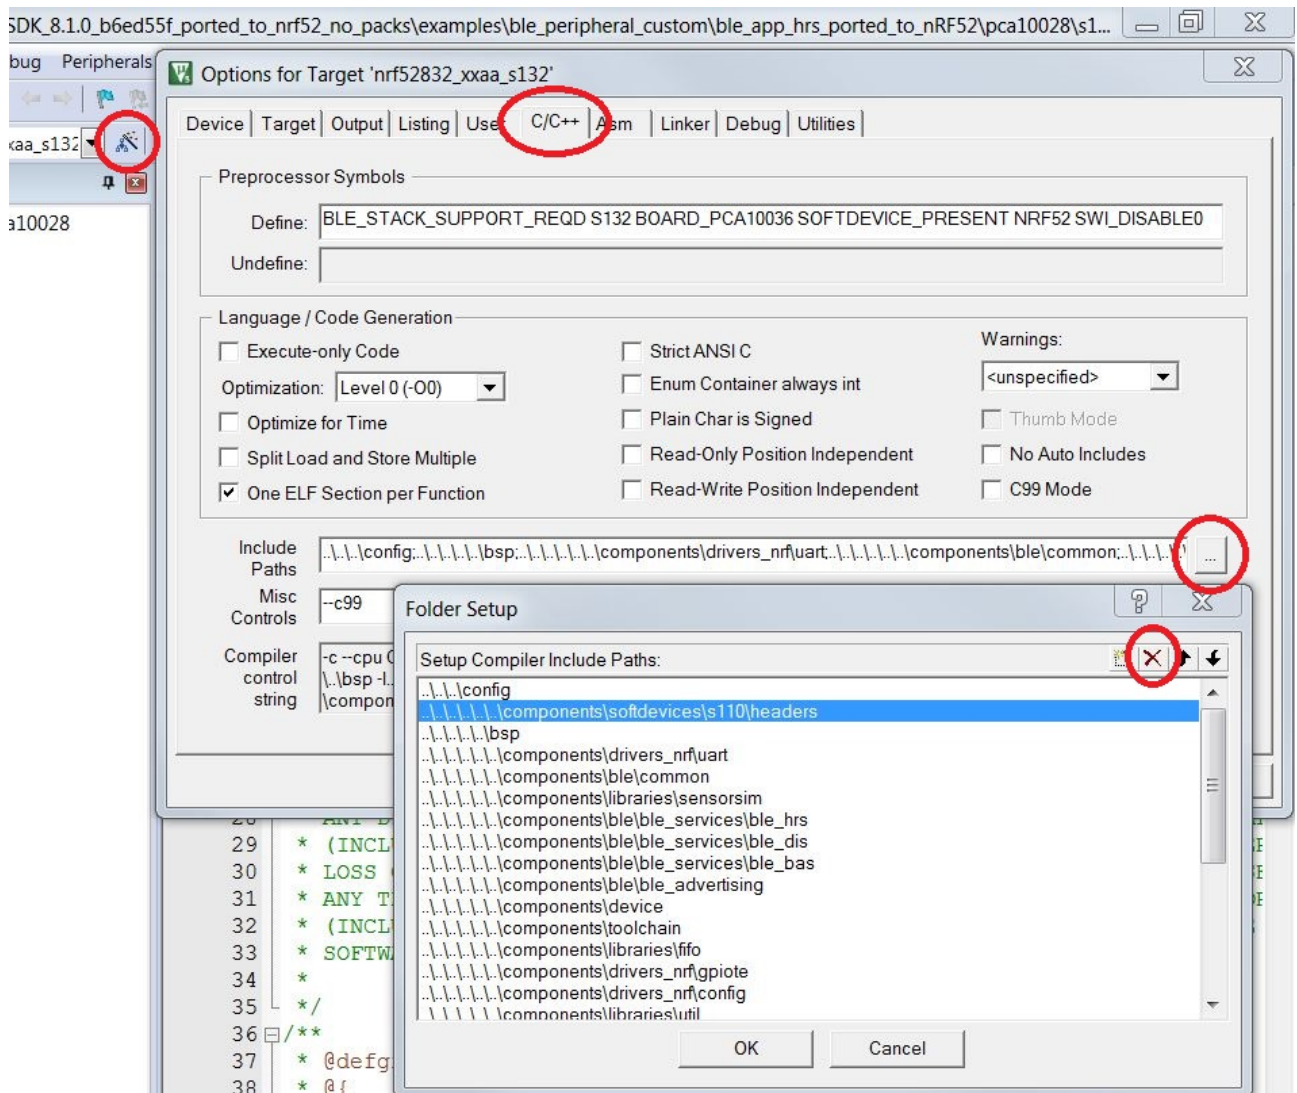

Figure 5: Removing the reference to S110 specific headers
8. Remove the reference to S110 specific headers in \components\softdevice\s110\headers, as shown in Figure 5: Removing the reference to S110 specific headers on page 14.